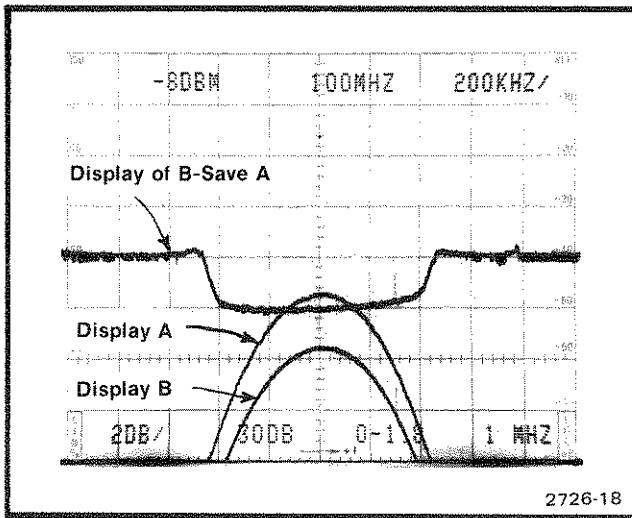

Fig. 3-8. Using Digital Storage to measure differential between two displays.
d. Activate B—SAVE A and check display. Display should show the difference between display B and display A (see Fig. 3-8).